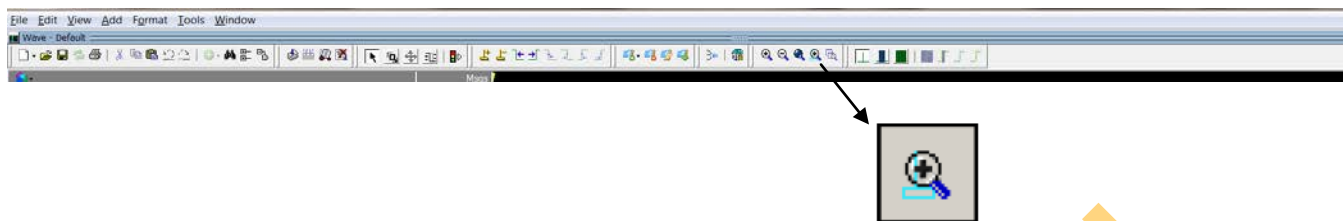
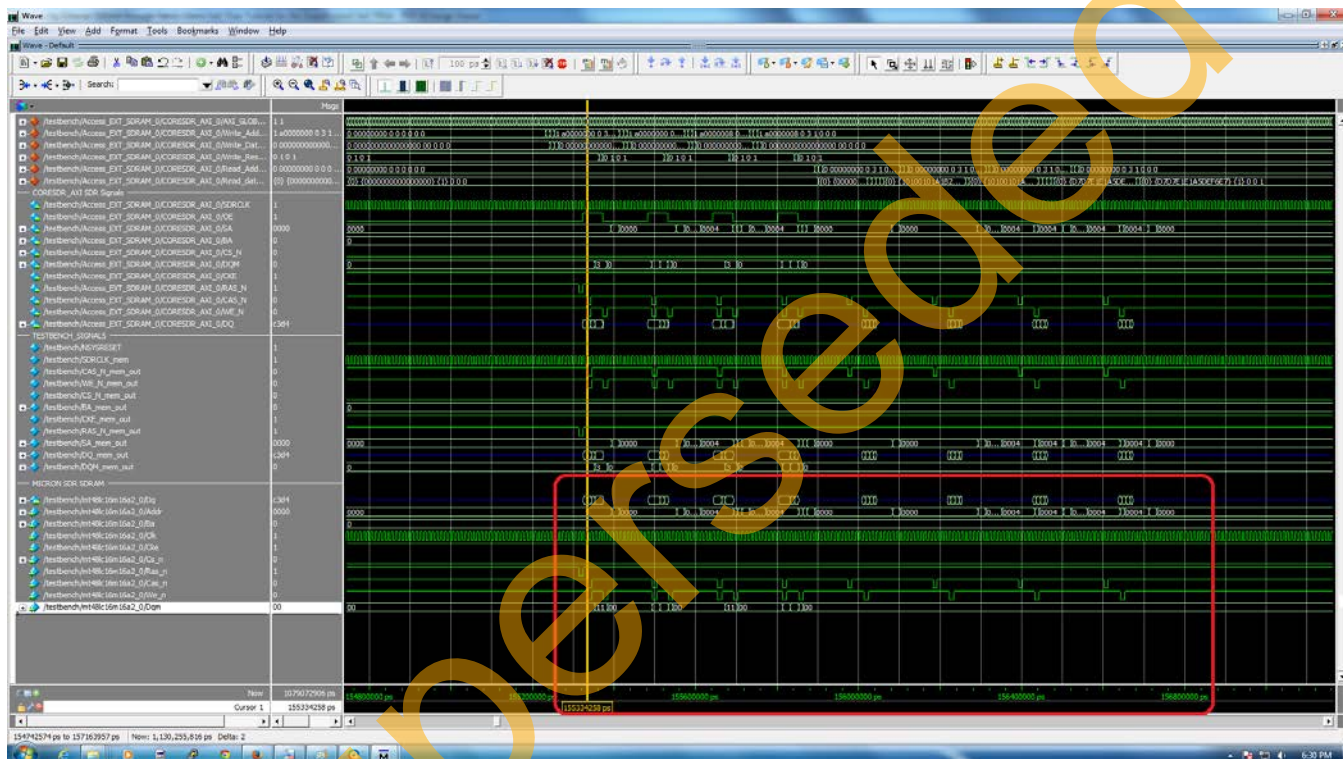

Figure 38. Zoom In on the Active Cursor
Figure 39. Write/Read transactions
- Place the cursor at 155 us on the Wave window and click the **Zoom In on the Active Cursor** button to zoom in at that location, as shown in Figure 38. Click as needed until you see the complete write and read transactions to the external SDR SDRAM in the Wave window, as shown in Figure 39.